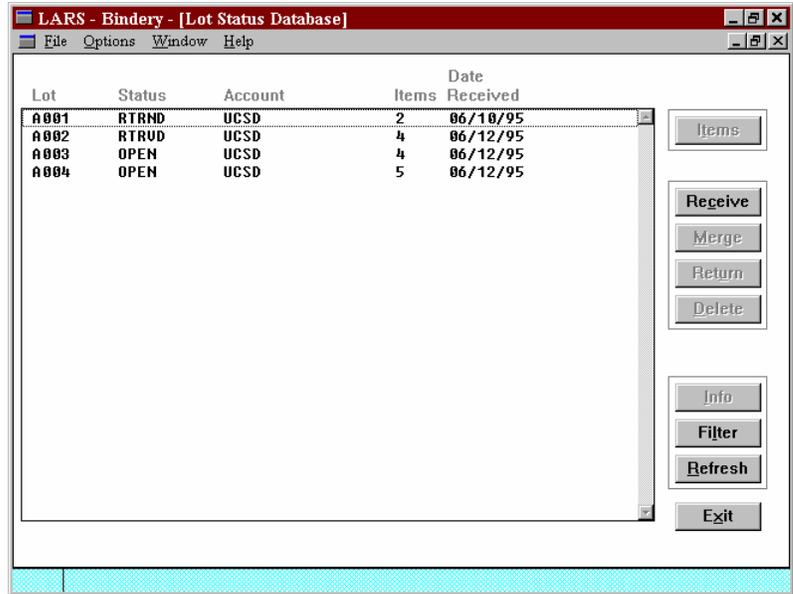

Figure 33 - Lot Status Database at the Bindery
**A.** At the Main Menu for LARS/Windows:Bindery, press the **Shipments** button. That will bring you to the Lot Status Database (see Figure 33).
- 3) After you receive the diskette, the new lots will appear in the list below ( Figure 33).